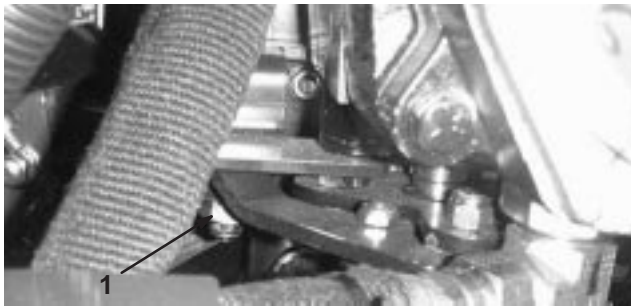

Figure 56
3. Loosen the locknut on the traction adjustment cam (Fig. 56).